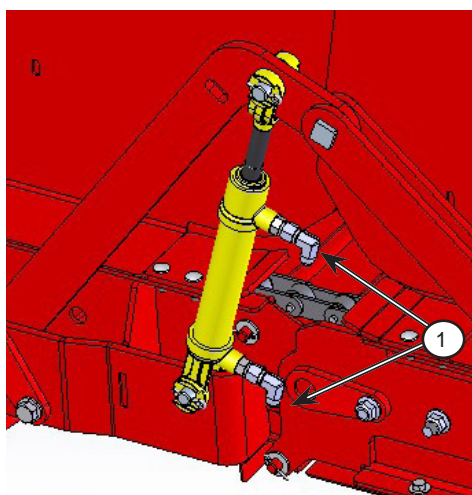

Figure 1.3: Lift cylinder on a LH flip up conveyor
- a. As an example, *Figure 1.3* shows the connection points (1) on a LH flip up conveyor lift cylinder.